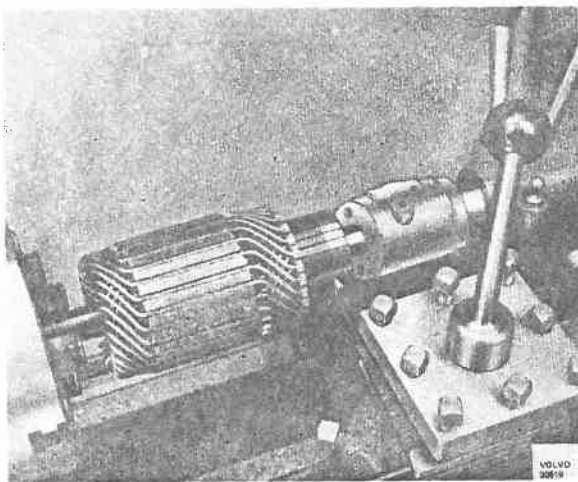

Fig. 33-16. Lathing the commutator
2. Re-lathe the commutator if it is scored or unevenly worn. When lathing, use a precision machine with a special support chuck. Take small cuts at a time so as not to remove more than is necessary, see Fig. 33-16.